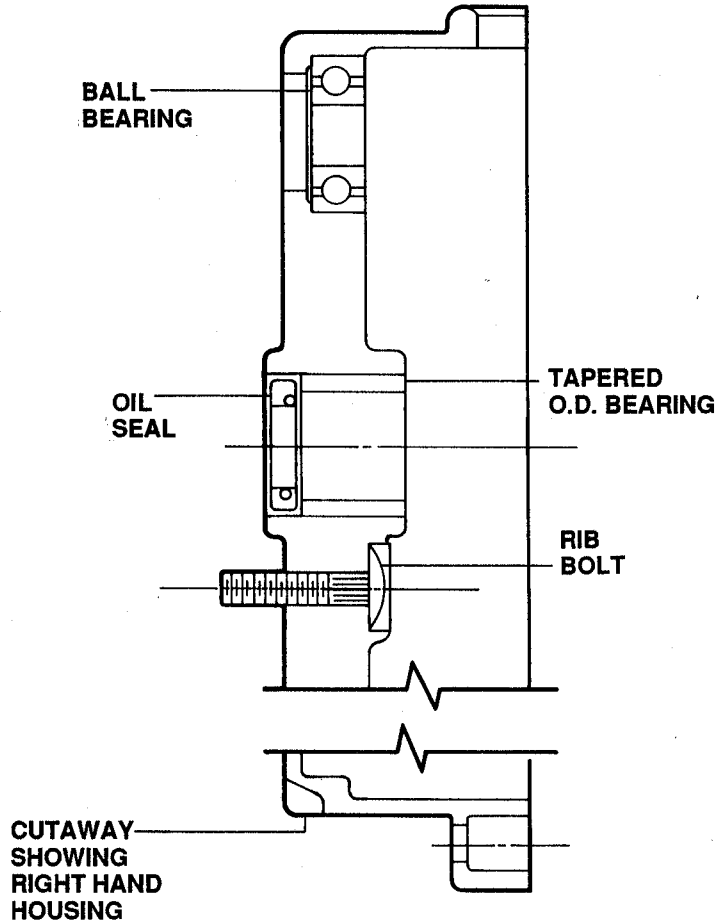

FIGURE 4.14
- (a) Drive tapered O.D. axle bearings out of housings from the **INSIDE**. See Figure 4.14.
- (e) Drive old rib bolts in right housing out toward the **INSIDE**, preferably using a plastic mallet. Refer to Figure 4.14.